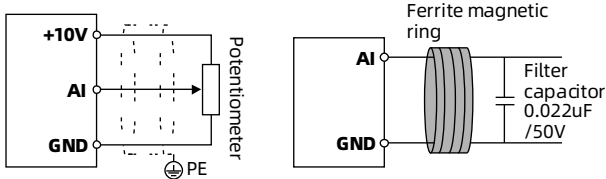

Figure 4-24 AI1 terminal wiring (voltage input)
- When using the internal 10V power supply, the wiring is the same as AI1, see Figure 4-24.